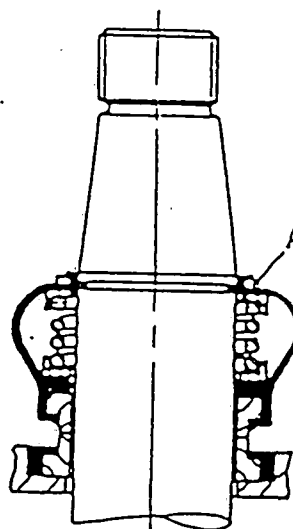

Fig. 23
b) Rubber-boot type seal - "M" (Figure 23)